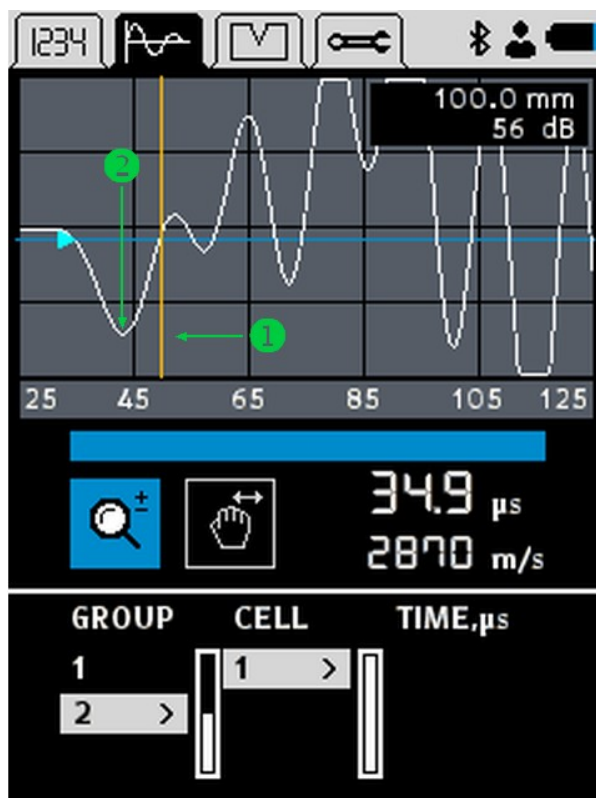

Figure 22: Search depth set correctly
Figure 22 shows an example of a false search depth setting. Here, before line ①, there are some peaks, namely from ① to ⑤.